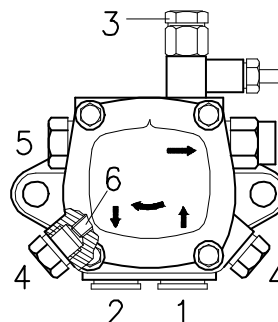

Fig. 18
7.3 Pump (Fig. 18)
- In order for self-priming to take place, one of the screws 3)(Fig. 18) of the pump must be loosened in order to bleed off the air contained in the suction line.
In order to adjust pump pressure, use the relevant screw 5) (Fig. 18 pag. 19)